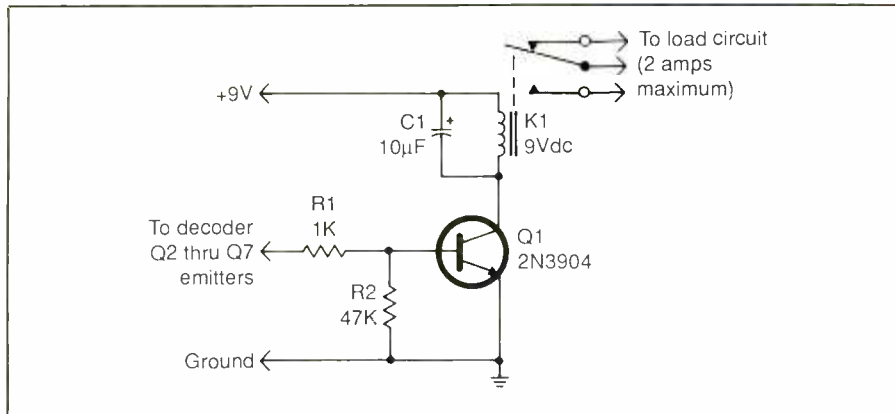

Fig. 1. Simplest type of control circuit contains an electromechanical relay that is driven by a transistor.
• *Simple Relay Circuit.* Figure 1 illustrates the simplest type of control circuit. It contains a common dc relay that is driven by a transistor. The single-pole, double-throw relay contacts can be used to switch power to any type of load circuit that does not exceed the 2-ampere contact rating of the relay. A readily available relay is specified in the Parts List, but you can substitute another relay that has
The circuit shown in Fig. 1 offers momentary operation because the relay will be energized only during the time the transmitter pushbutton for the channel to which the relay is assigned is held down. Releasing the transmitter button causes the relay contacts to spring back to the unenergized position.
transmitter pushbutton is pressed, the potential at the emitter of the driver transistor rises to about +5 volts. This is sufficient to forward-bias relay transistor *Q1* in the Fig. 1 circuit so that collector current flows and energizes relay *K1*.
Shown in Fig. 2 are the actual-size etching-and-drilling guide (A) and wiring diagram (B) for the printed-circuit board for the Fig. 1 relay driver circuit. You can fabricate this and any of the other pc boards presented in this article or you can purchase ready-to-wire boards from the source given in the Note at the end of the Parts List. Guide (A) is laid out for the relay specified for *K1* in the composite Parts List. Hence, if you use a different relay, you will have to modify the layout accordingly.